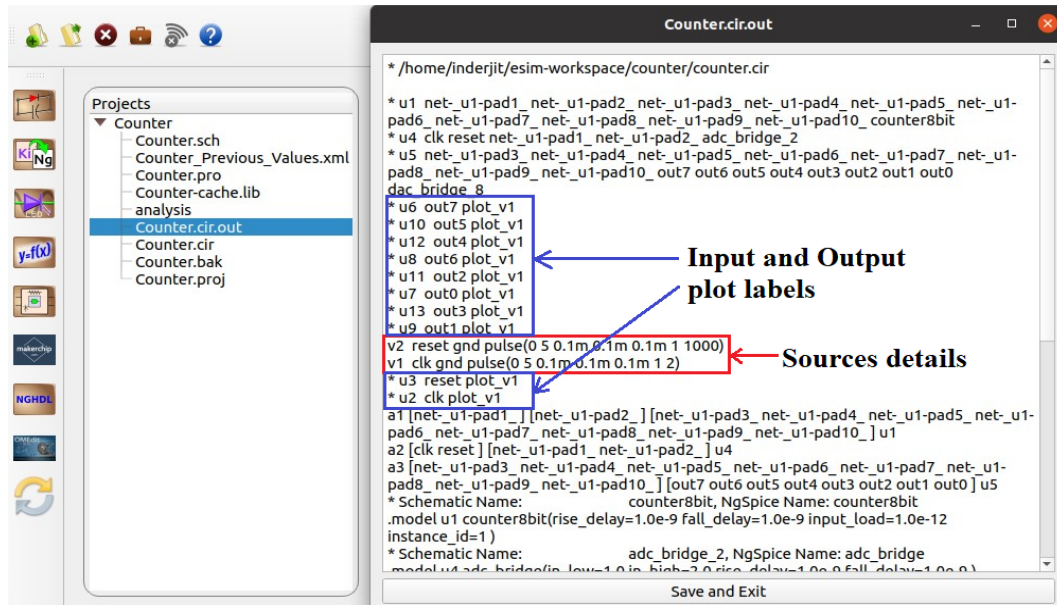
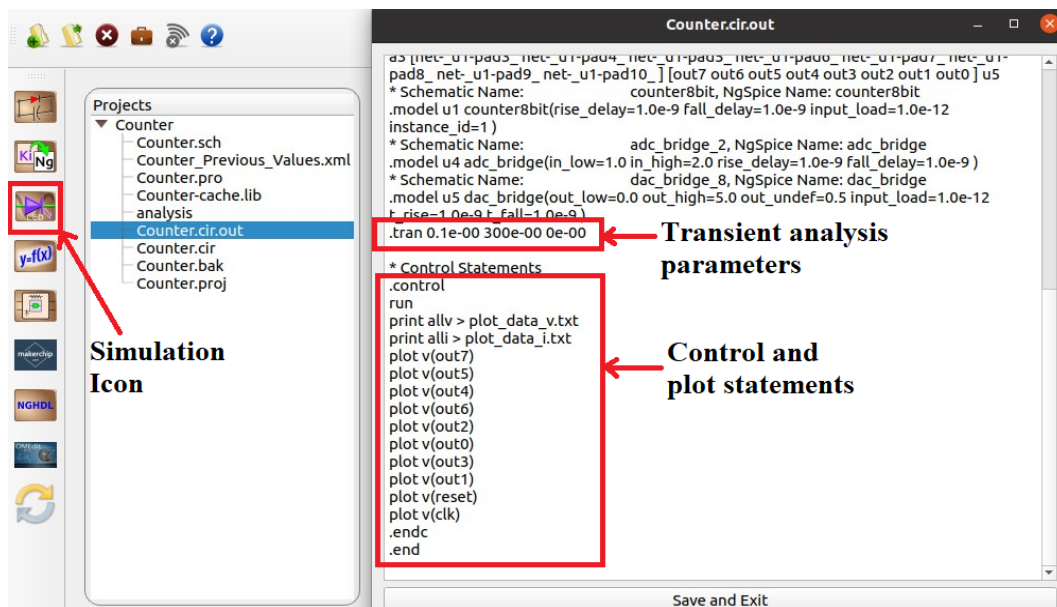
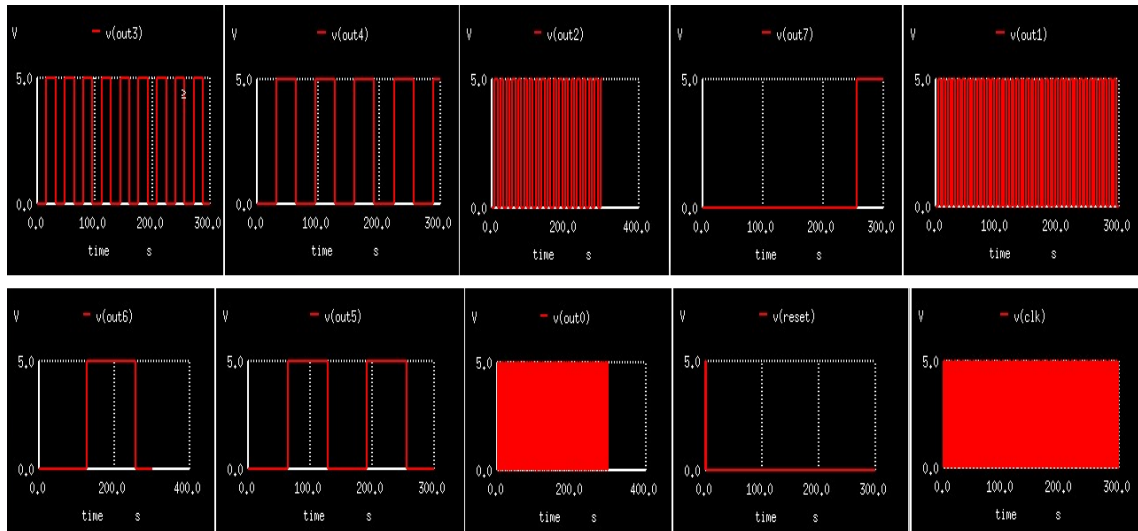

Figure 11.37: Cir.out file details Part 1
Figure 11.38: Cir.out file details Part 2
Figure 11.39: Input and Output simulation plots of 8 bit Counter
5. Next, right click on **Counter.cir.out** file and open it as shown in Fig. 11.37. This file consists of Ngspice netlist of 8 bit counter including information of source, input and output plot labels, transient analysis parameters and control and plot
statements. Refer Fig. 11.37 and Fig. 11.38
6. To run simulation click on **Simulation** icon as shown in Fig. 11.38. It will display input and output plots for 8 bit counter as shown in Fig. 11.39. You can see the plots of input clock, input reset and outputs out0 to out7. However, these plots are not in order.